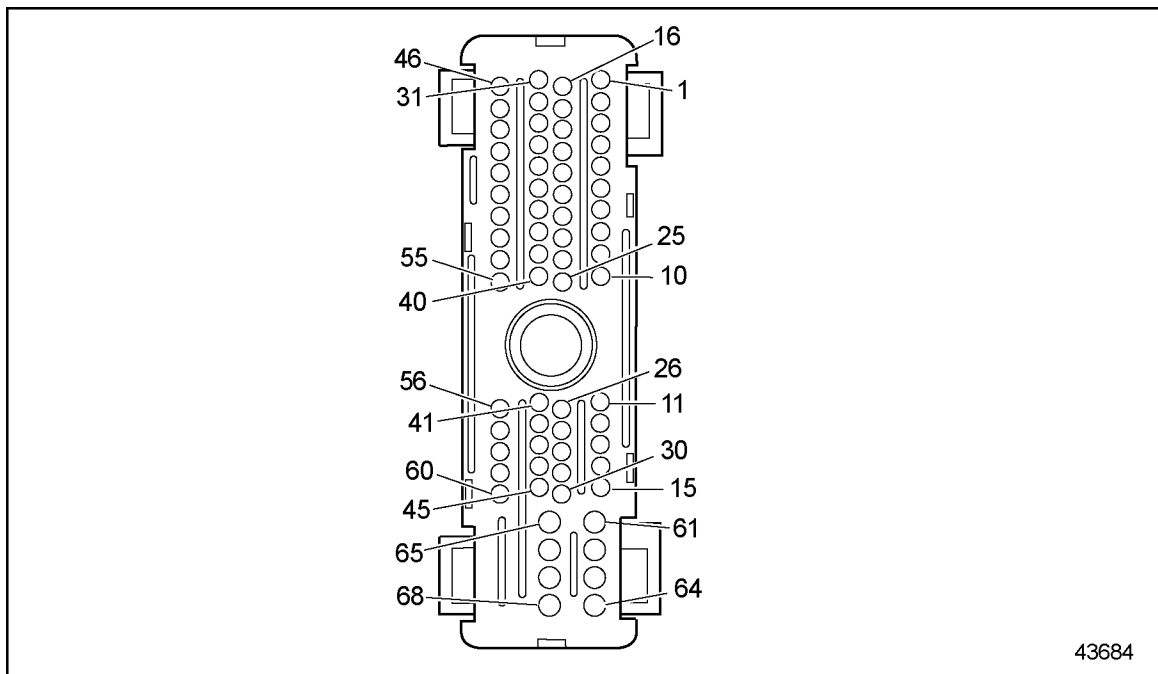

Figure 40-3 ECM/ECU Engine/Vehicle Interface Harness Connector
2. Disconnect the Vehicle Interface Harness connector. See Figure 40-3.